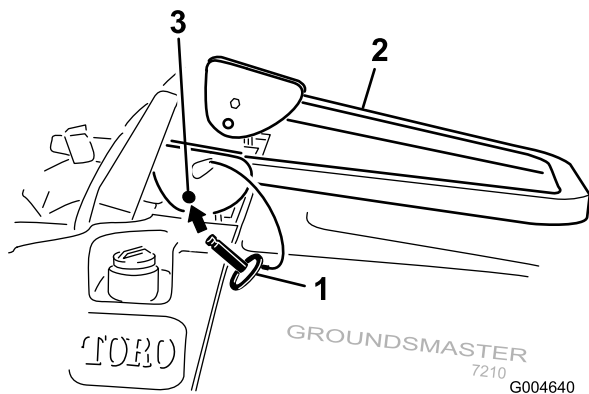

Figure 4
5. Lower the roll bar to the down position (Figure 4).